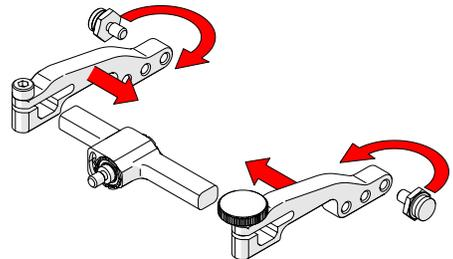

Fig. 167 - Attach arms and move buttons
4. Place the pivot buttons on the inside of the probe holder arms (Fig. 167) using a 3/8 in wrench (Fig. 43). Slide the arms onto the yoke and tighten the probe holder arm adjustment knob and the arm clamp screw.